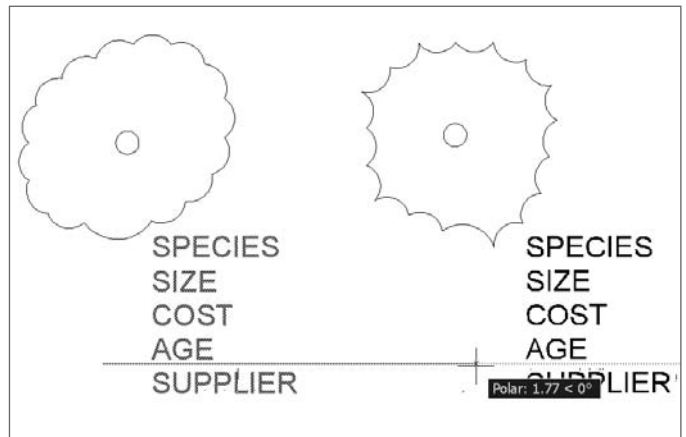

Figure 5.11
1. Create a symbol to which you'll attach attributes. For this example, use a couple of tree symbols as shown in Figure 5.11.